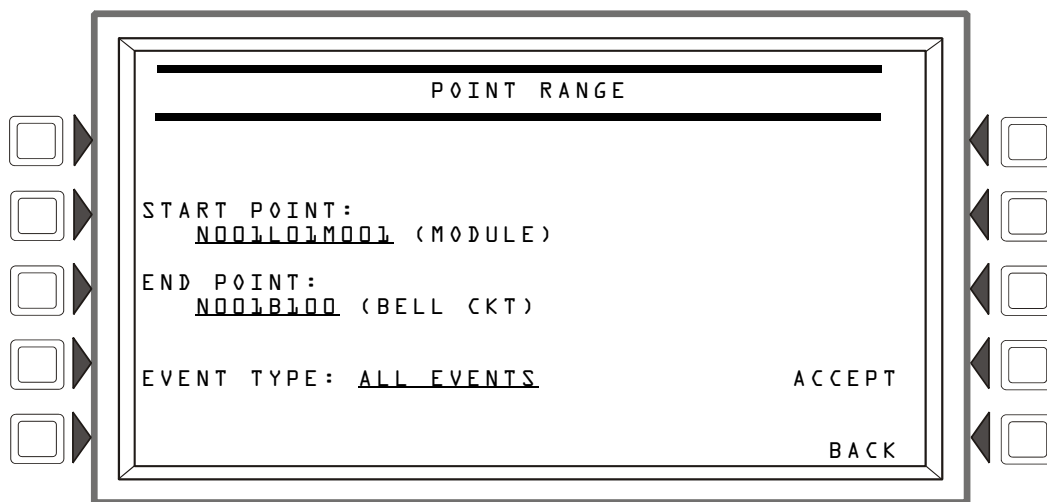

Figure 4.10 Point Range Select Screen
Selecting the **POINT RANGE** soft key on the Local History Select screen sets a range of device points for event display as shown in Figure 4.10 on page 46.
- From the Local History Select screen, press the **POINT RANGE** soft key (see Figure 4.10).
This example requests a history of all events on Node one only, Loop one only, for all modules, panel circuits and bell circuits. Since the start point specifies module device addresses (M001), detectors would not be included in this query as they are first in the device type order. Figure 4.10 shows how this inquiry would appear on the screen.